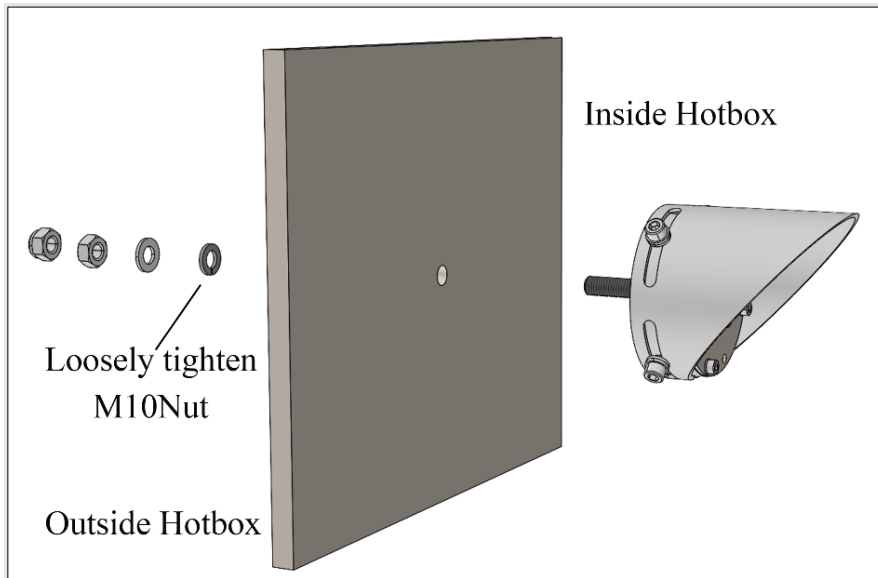

Figure 5-10: Mount the Reflector
- Then mount the reflector following - Figure 5-10.